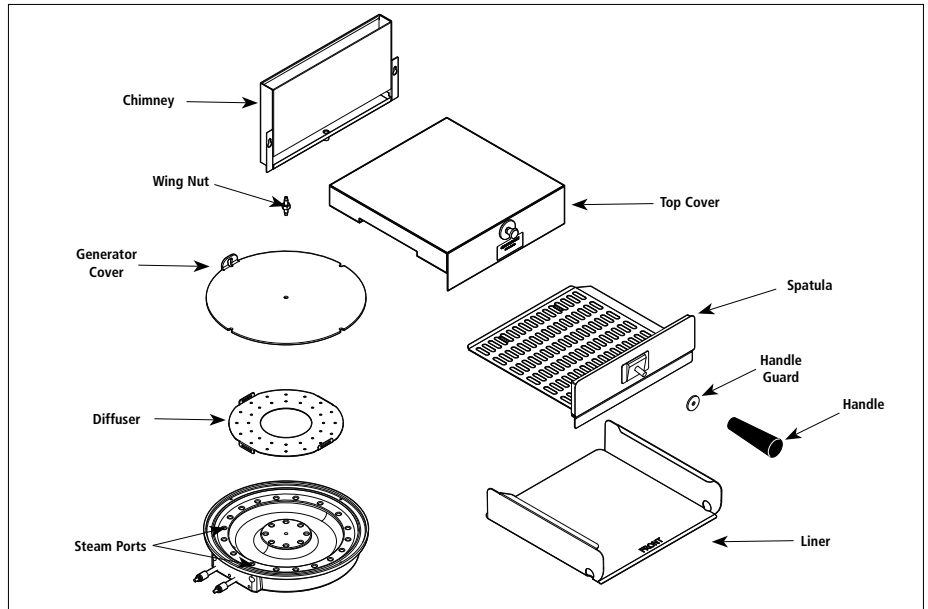

Figure 6. CM-100 Components
3. Remove the Top Cover, Spatula, and Liner (Figure 6).
4. Remove Chimney (Figure 6) from rear of unit by sliding upward and away from the unit.
2. Remove the Top Cover (Figure 6).
3. Remove the Wing Nut and Generator Cover (Figure 6).
4. Remove the Diffuser (Figure 6).